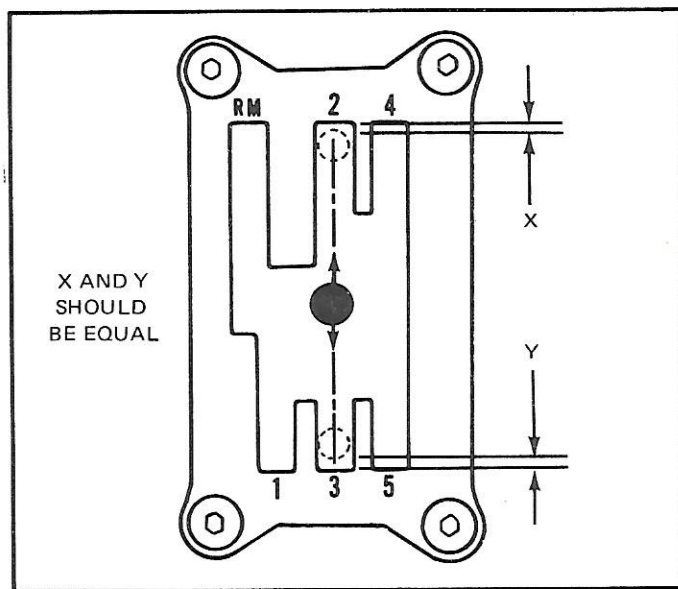

Fig. 3 – Article No. 14
5. Hold the gear shift lever in the center of the 2-3 shift slots while tightening the turnbuckle lock nuts. The clearance between the gear shift and the ends of 2nd and 3rd gear slots should now be equal. (See Fig. 3.)